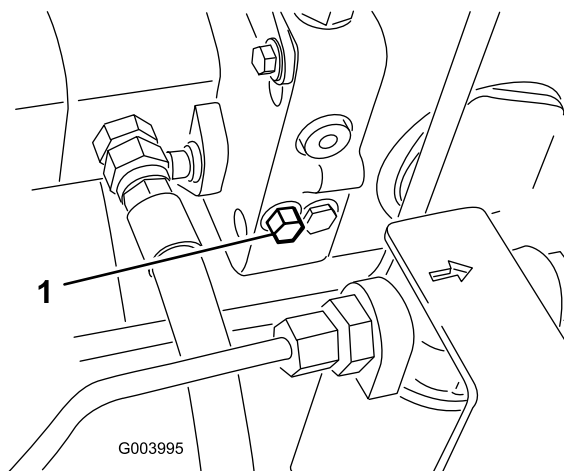

Figure 22
1. The bypass valve is located on the left side of the hydrostat (Figure 22). Rotate the bolt 1-1/2 turns to open and allow oil to bypass internally. Because fluid is bypassed, the machine can be moved slowly without damaging the transmission.